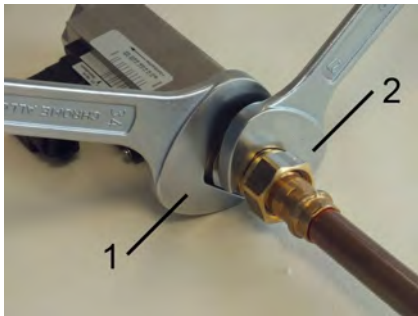

Fig. 12: Screw in the device
2. Fasten the adapter union of the pipeline with an appropriate spanner (Fig. 12/2). When doing so, lock the process connector in place to prevent slip, using a suitable spanner (Fig. 12/1).